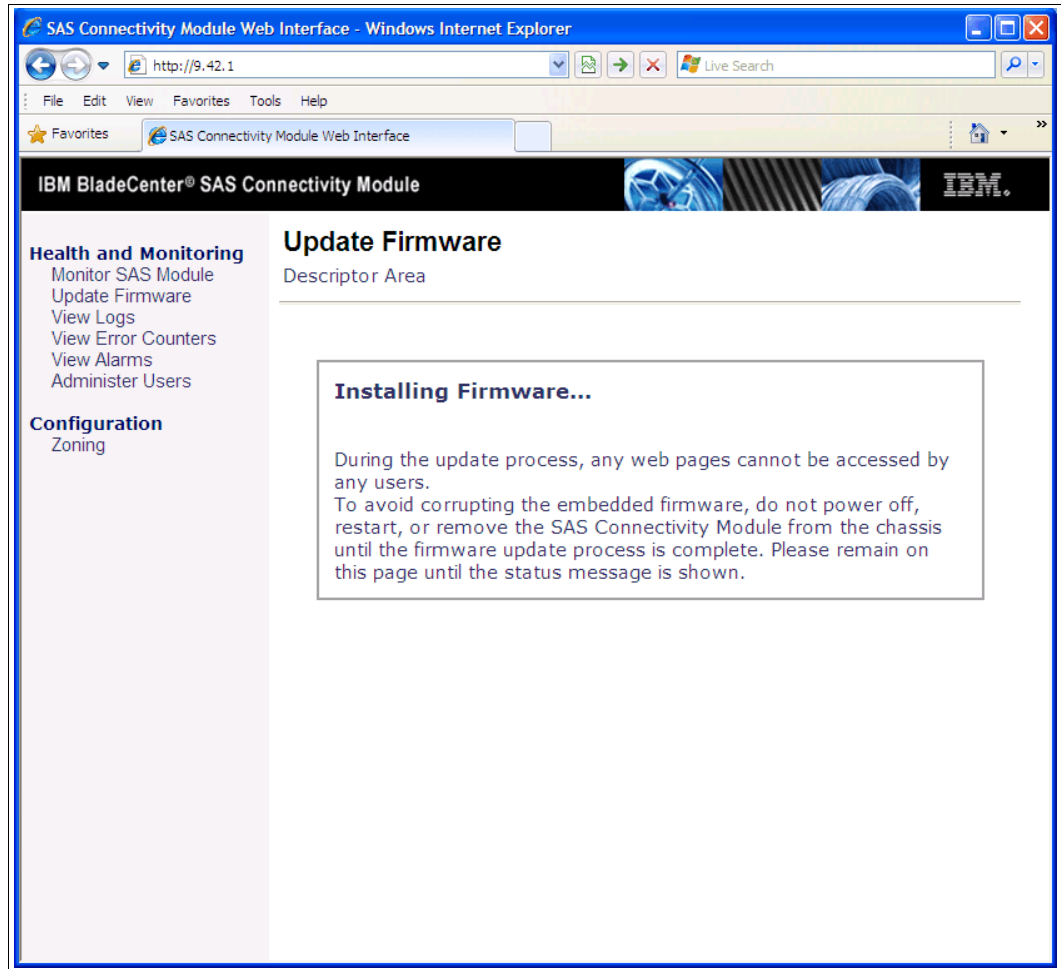

Figure 16-10 Installing firmware
5. Avoid any power off or restart actions during the firmware upgrade, as noted in Figure 16-10.